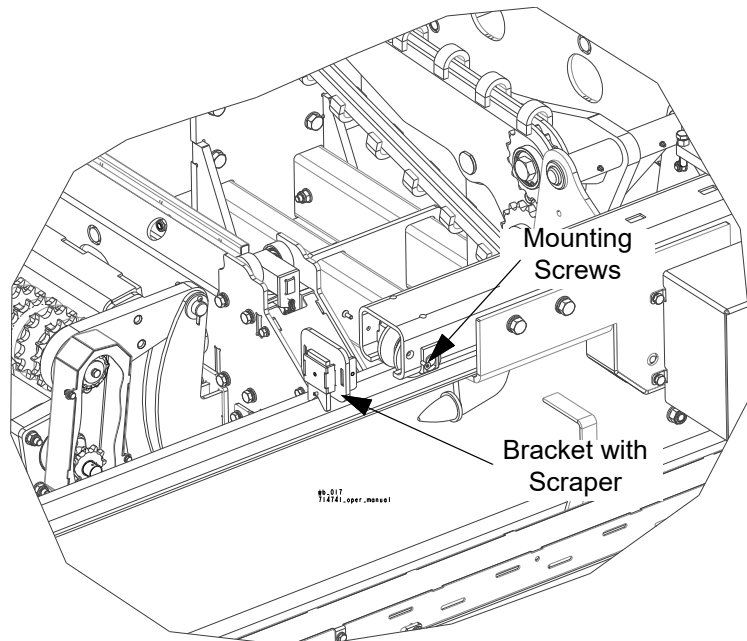

FIG. 5-4
See Figure 5-4 Remove the mounting screws and dismount the scraper brackets (4).